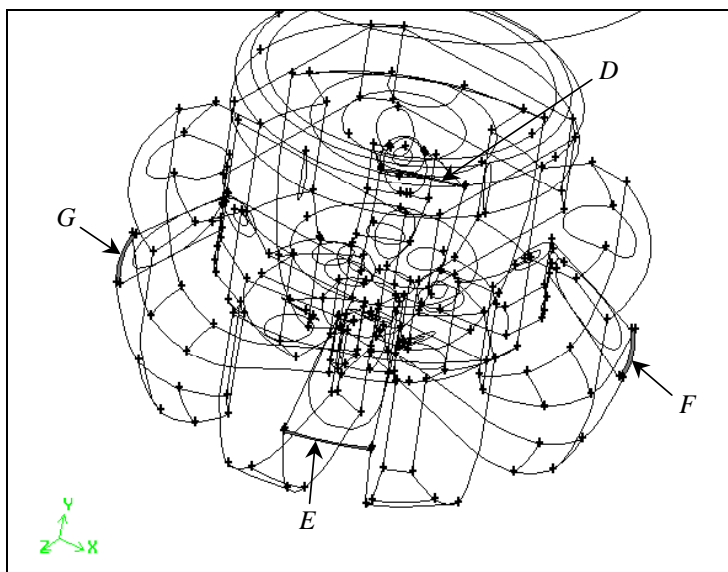

Figure 12-10: Small, rectangular lip faces
Having eliminated the three small, ovoid faces at the base of the main shaft, you will now remove four small, rectangular faces that serve as lips to other, larger faces (see Figure 12-10).
*GAMBIT highlights and zooms in on the smallest of the rectangular lip faces (face D in Figure 12-10) and automatically selects the Merge faces option and populates the **Faces to merge** pick list with suggested faces to merge.*
- g) Click the A/N pushbutton to eliminate the selected face and automatically select the next smallest face (face E in Figure 12-10).
- h) Click the A/N pushbutton to eliminate the selected face and automatically select the next smallest face (face F in Figure 12-10).
- i) Click the A/N pushbutton to eliminate the selected face and automatically select the next smallest face (face G in Figure 12-10).